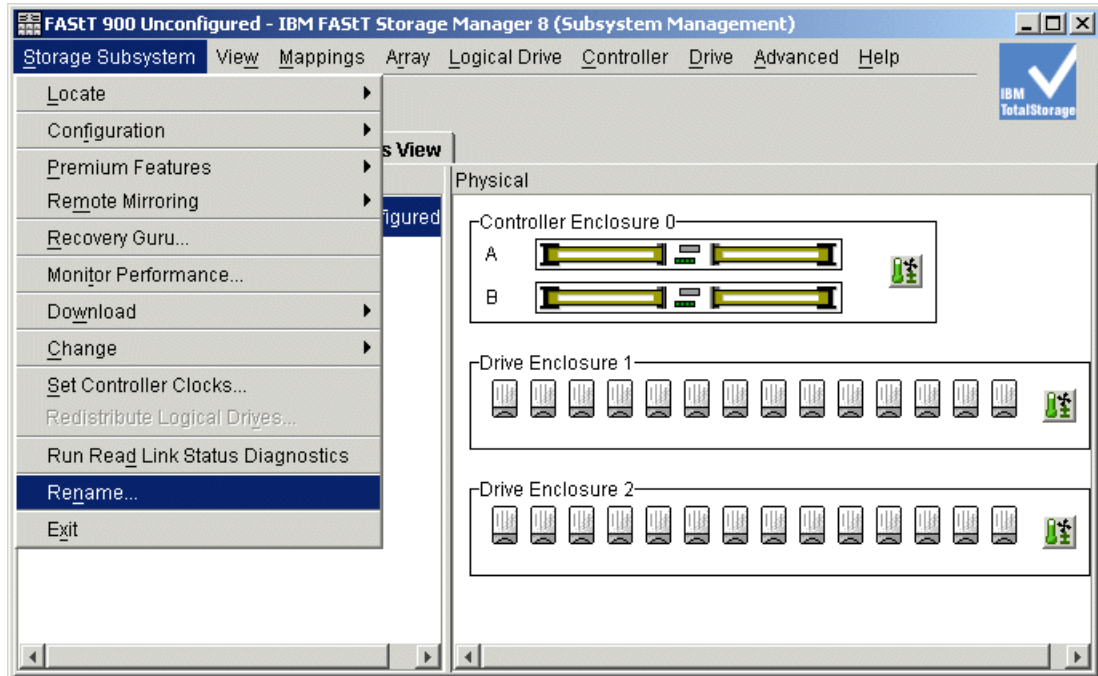

Figure 5-19 Renaming the FASTT Storage Server
1. If you installed more than one FASTT Storage Server, it is important to give it a literal name. To rename the FASTT Storage Server, open the Subsystem Management window. Right-click the subsystem, and click **Storage Subsystem -> Rename** (Figure 5-19).